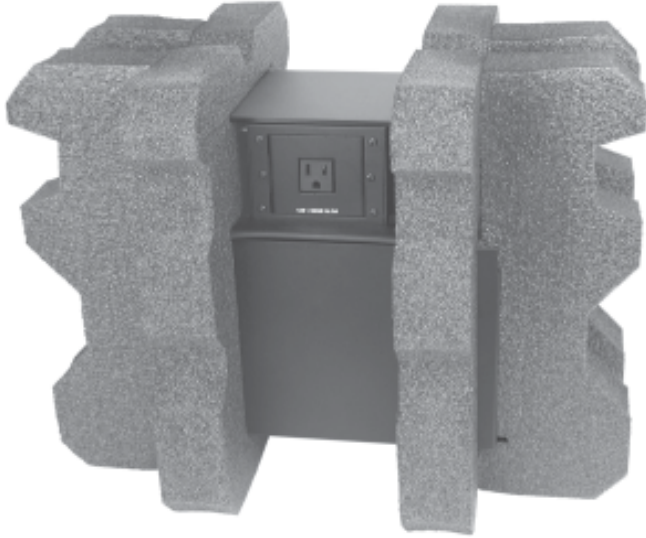

Figure B-6 — HSA suspended in the foam
7. Insert the opposite end of the HSA 822M and the clamshell into the remaining foam shell (figure B-6). Firmly push the foam shells together as far as they will go to completely suspend the HSA and clamshell. The sides of the clamshell protrude through slots in the foam.